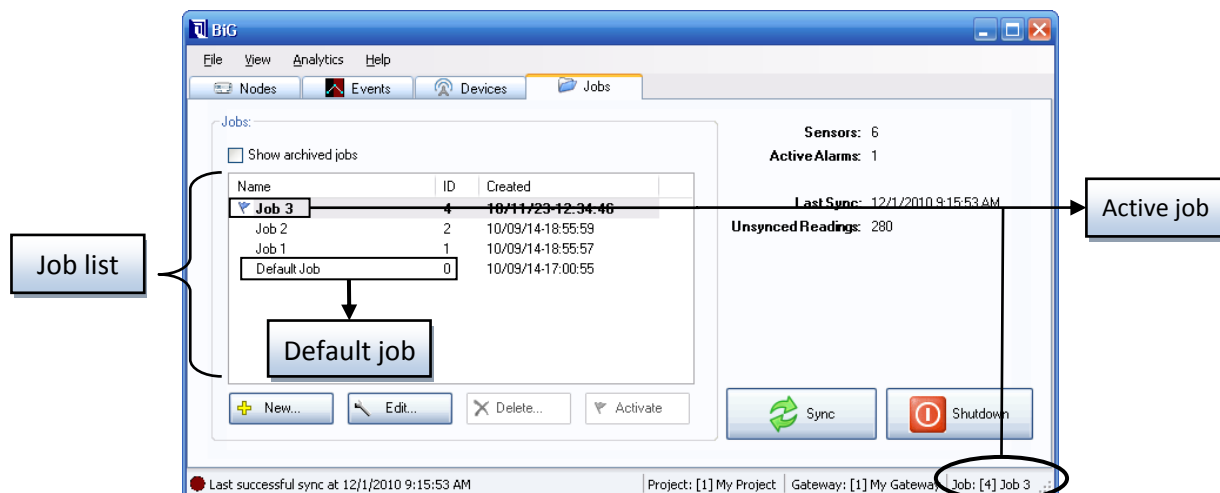
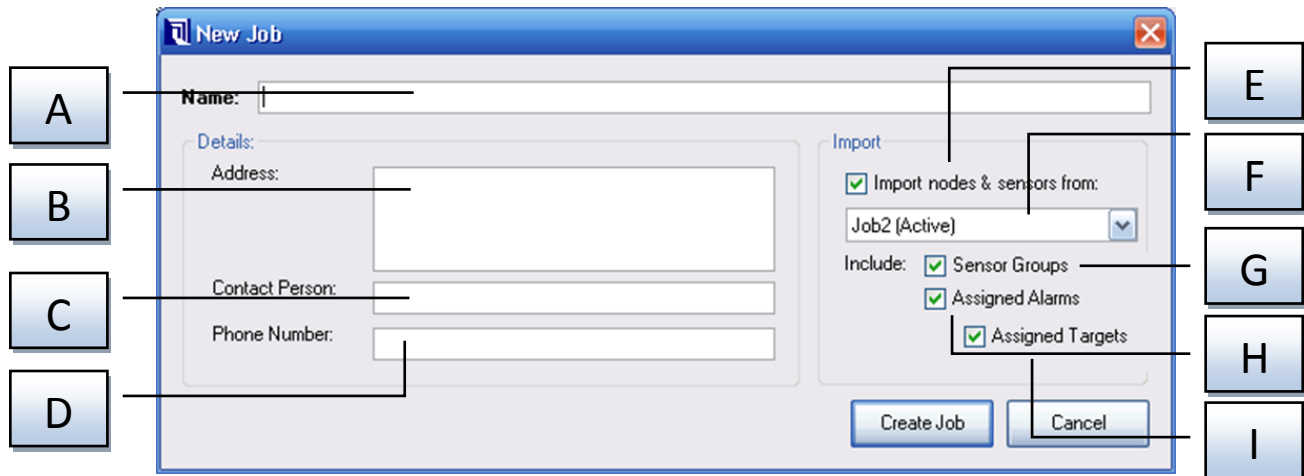

Figure 5-1 - The job list
Figure 5-2 - The new job dialog
Click on the  button under the job list (see FIGURE 5-1). This will present the *New Job* dialog (see FIGURE 5-2).
2. Select the job to edit from the job list (see FIGURE 5-1)
An *Edit Job* dialog will appear. The dialog contains the same fields as FIGURE 5-2, with the exception of the job import fields. Refer to FIGURE 5-3 when making the desired changes.
2. Select the job to be deleted from the job list (see FIGURE 5-1)
2. Select the desired job in the job list (see FIGURE 5-1)
The job will appear bold in the job list and will be displayed in the status bar as labeled in FIGURE 5-1 - THE JOB LIST.
- Select the source job in the job list (see FIGURE 5-1)